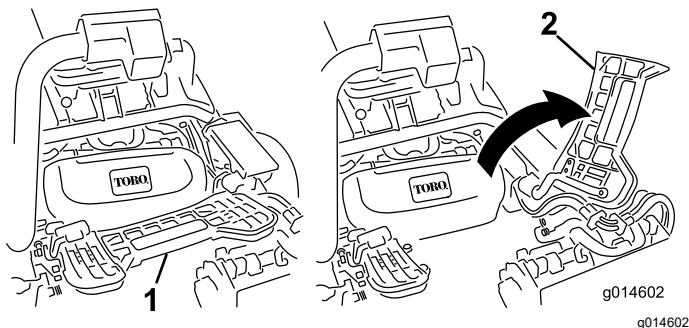

Figure 54
1. Lift up on the footrest and swing it open, allowing access to the center cutting unit position (Figure 54).